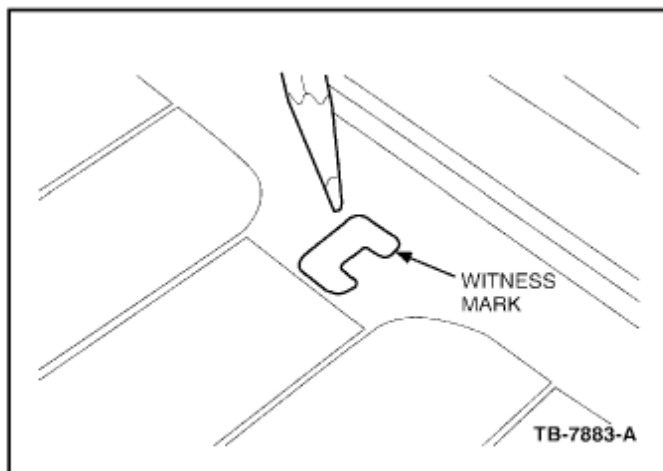

Figure 4
1. Place the replacement terminal over the original tab location making sure the conductive areas of the terminal will be on a good conductive area. Do not place the terminal tab foot on the original location which does not have conductive material (figure 4).